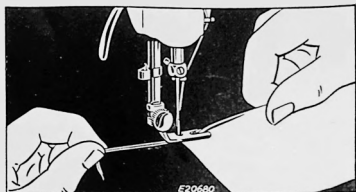

FIG. 36. STARTING HEM AT VERY END OF MATERIAL
- (1) Fold edge of material twice, about $\frac{1}{8}$ inch each time, for a distance of about two inches. Crease folds.
- (2) Lay about three inches of needle and bobbin threads back under hemmer. Place creased edge of material under hemmer with end of hem directly under needle. Lower hemmer and tack end of hem with two machine stitches.
(3) Raise hemmer. Pull threads and hem slightly from you with left hand, then while holding threads, draw material toward you with right hand into scroll of hemmer until tacked end is caught in hemmer, as shown in **Fig. 36**.